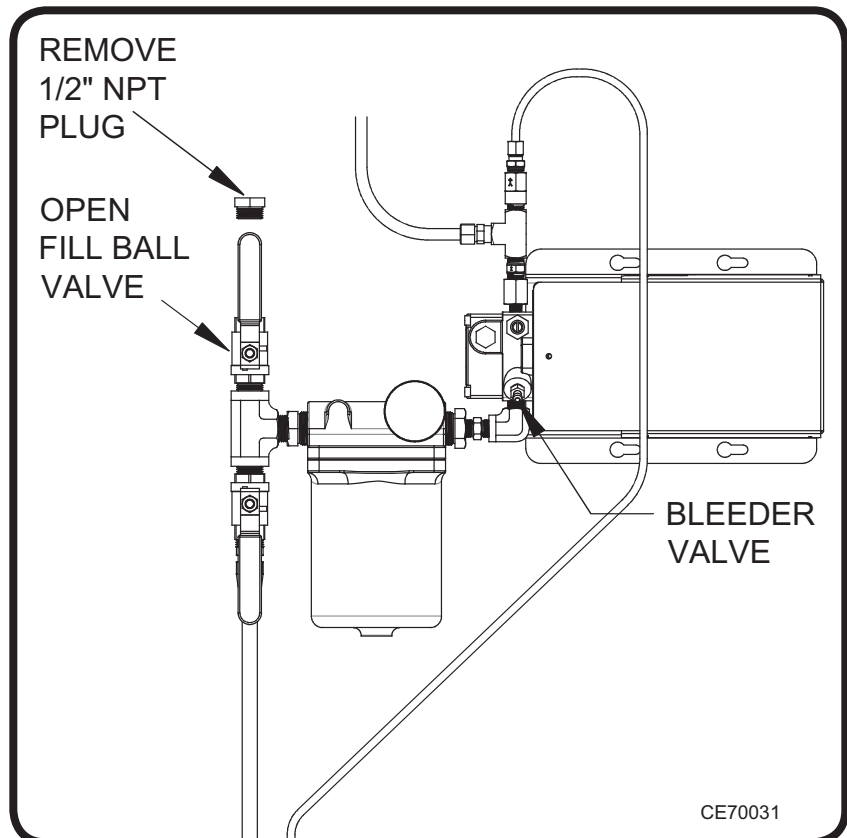

Figure 23: Priming the Metering Pump System
- (1) Refer to Figure 23.
- (2) Remove the 1/2" NPT plug and open the ball valve on the inlet of the filter.
- (3) Pour oil into the inlet of the filter until the suction oil line, filter, and pump head are full.
- (1) After the burner starts, press and hold the reset button for 15 seconds until the yellow light on the primary control turns on (the burner will shut off).
- (2) Release the reset button. The yellow light will turn off and the burner will start again.
- (3) Within 15 seconds click (push and release) the reset button. This will transition the primary control to “Pump Prime” mode which will bypass the flame sensor and keep the pump on for 4 minutes.
- (4) Open the pump bleeder valve and purge all air bubbles from the pump (refer to figure 23).
- (5) After 4 minutes the yellow light on the primary control will turn off and the control will automatically return to standby mode.
- (6) Repeat steps 1 - 5 until the pump is fully primed and oil is delivered to the burner.